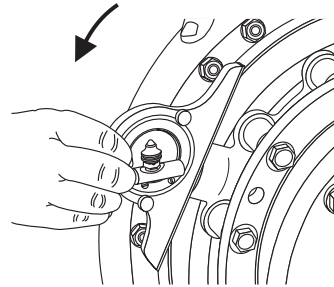
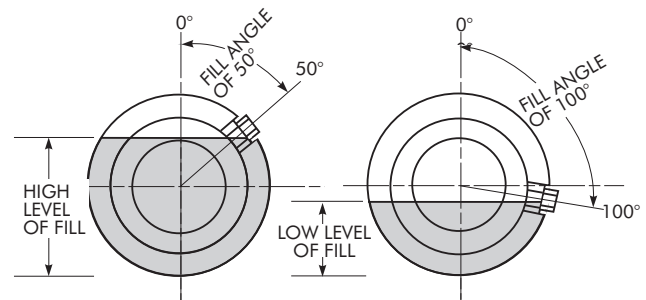

Figure 6
Figure 7
- C. Slowly rotate fluid coupling until the required fill angle is achieved, Figure 6. Fluid must appear at the lip of the hole. Add or drain fluid until level is correct. Figure 7 shows fill angle examples.